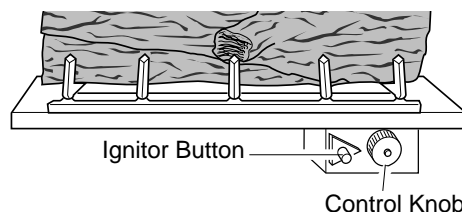

Figure 28 - Control Knob and Ignitor Button Location
3. Turn control knob clockwise to the OFF position (see Figure 28).
4. Wait five (5) minutes to clear out any gas. Then smell for gas, including near the floor. If you smell gas, **STOP!** Follow "B" in the safety information, column 1. If you don't smell gas, go to the next step.
5. Turn control knob counterclockwise to the PILOT position. Press in control knob for five (5) seconds (see Figure 28).